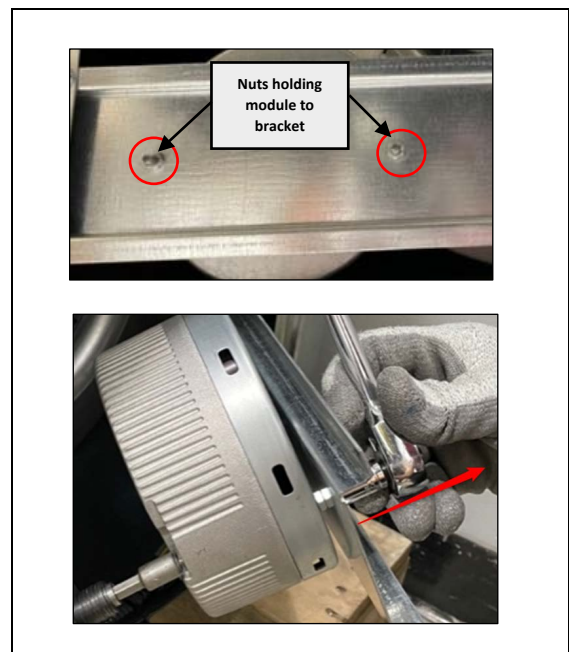

Fig.3 Removing Motor Module from mounting bracket
**Step 4.** Release the Motor Module from the mounting bracket by removing the 9mm nuts (qty 2) on the back of the bracket. (See Fig. 3.)